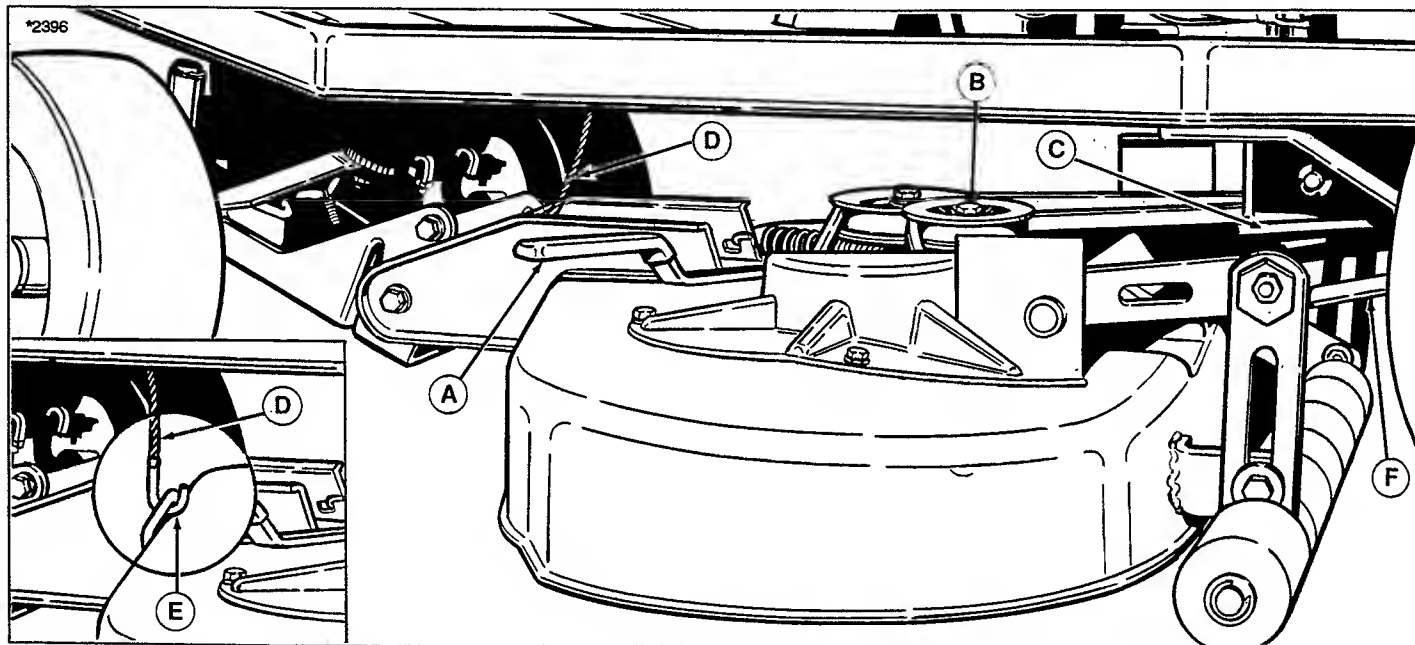
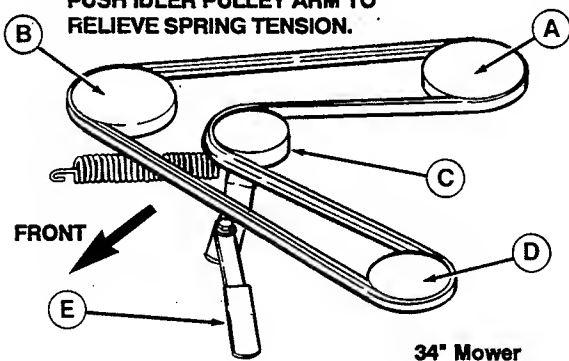

Figure 6. Mower Removal (34" mower shown)
Figure 8. 30" & 34" Belt Pattern
2. On left hand side of 34" mower, push idler pulley arm (A, figure 6) to relieve belt tension. On right hand side of 30" mower, pull idler pulley arm (A, figure 6) to relieve belt tension.
3. With belt tension relieved, remove belt from idler pulley (B) and electric clutch pulley (C). Removing belt relieves the tension on the front hitch assembly.
4. With lift lever down, remove lift cable (D) from mower hook (see inset illustration). Make sure the Dial-A-Cut™ control is set to the lowest setting.
Note: For easier mower removal and installation, rear trailing arms (F, figure 6) can be removed by removing spring clips and clevis pins.
7. To install mower, reverse above steps. Check mower belt pattern as shown in figure 8. Make sure that the mower lift cable is installed with hook toward the rear (E, figure 6) and the rear trailing arms (F, figure 6) are positioned above rear torsion bar. (Also see D, figure 25.)